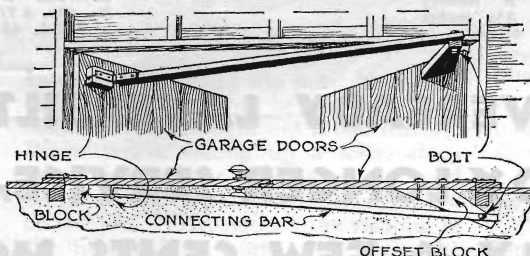

Fig. 3. Side and top views of the ingenious device for making double doors open at the same time.
G. Solomon, of Puerto Plata, Santo Domingo, wins this month's ten-dollar prize for his suggestion of a garage door opening device (Fig. 3). Each month Popular Science Monthly awards \$10, in addition to regular space rates, for the best idea sent in for motorists. Other contributions used are paid for at the usual rates.
FIGURE 3 shows a novel fitting for any double garage doors. It is designed so that when you open or shut the door at